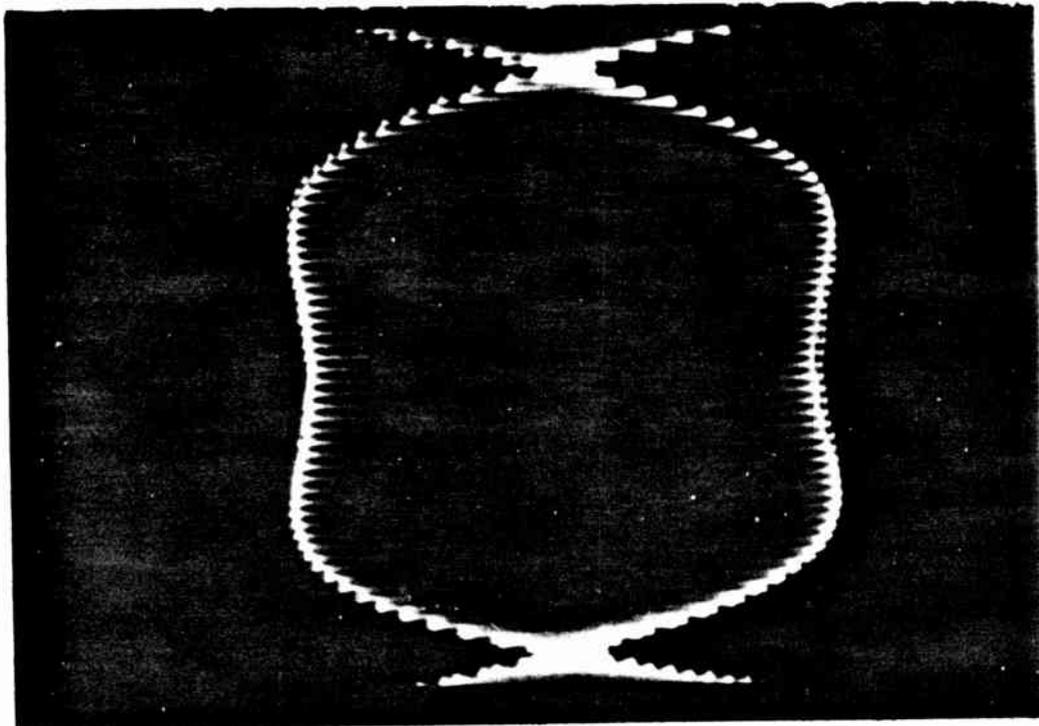

Figure 6-5. Interference Pattern for 180° Line-Up of FM Pickups -- Dial Setting "0"
f. Loosen same two screws (step a.), just enough to permit slight movement of the Calibration Signal magnet holder. Minutely adjust magnet holder up or down to obtain accurate size symmetry of the two large envelopes (see figure 6-5). (Adjustment required should be very small since a close approximation was obtained in step a.). The two signals are now 180° apart in phase. Tighten screws. If tightening screws upsets accuracy of adjustment, the effect must be anticipated by a slight compensating misadjustment so that 180° relationship will be correct when screws are tightened.